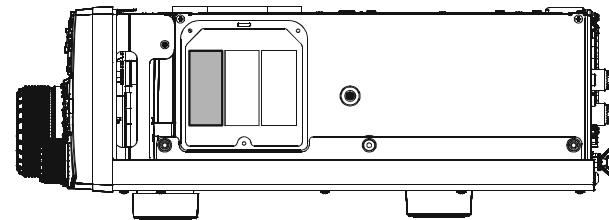

FIGURE 3
5. Refer to Figure 3, position the filter so that its connectors are aligned with the mounting pins on the board, and push it into place.